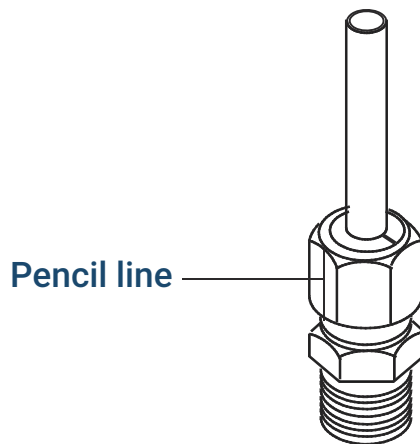

Figure 18. Marking the fitting
6. Mark the nut with a pencil line. See Figure 18.